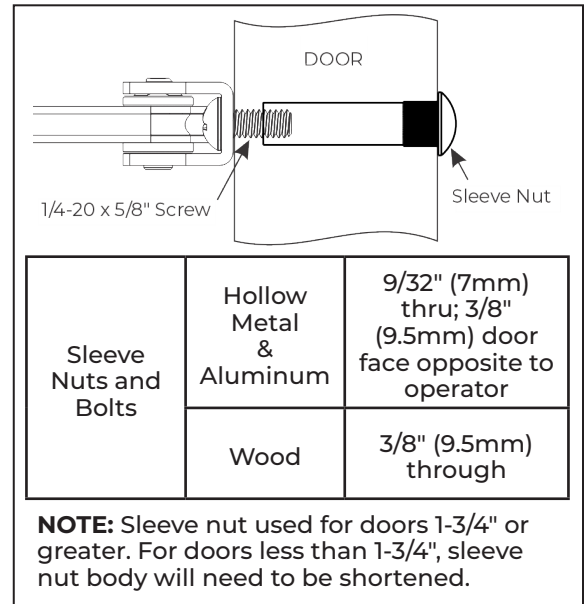

Fig. 5
- **For wood doors:** Reference Fig. 5 and use 1/4-20 x 5/8" screws with sleeve nuts.